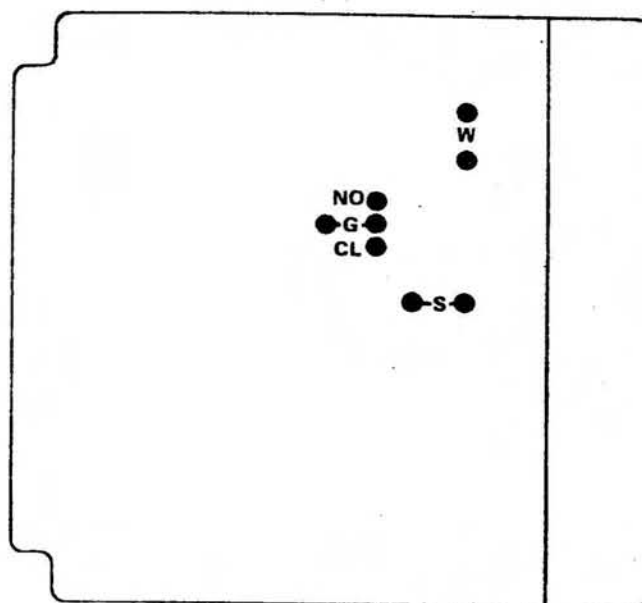

Figure 6. 405 Strapping Option Locations
7.01 The 405 is equipped with strapping posts for conditioning the various circuit options. All strapping posts are located on the foil side of the module. Refer to the following paragraphs for option conditioning information and to Figure 6 for the locations of the strapping posts.